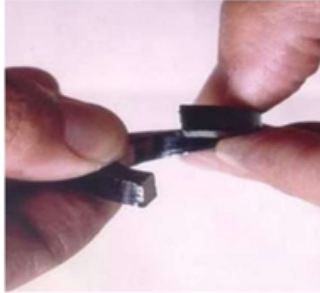
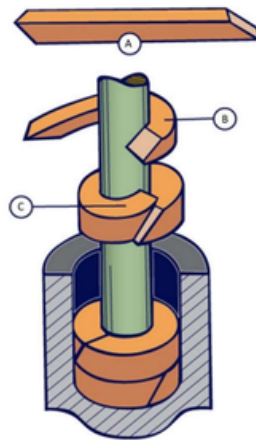

Figure 39 Helix spreading of ring
Figure 38 Spreading of Cut Sealing Rings
5) INSTALL ONE RING AT A TIME. See Figure 38 for installation of cut rings. For installation of die formed rings of flexible graphite, in order to prevent cracking and breaking of the material, do not spread apart the ring as shown in Figure 38. Form a helix with the die formed ring (see Figures 39 and 40). In small valves with 3-5 mm (1/8-3/16 inch) cross sections, soft packing materials, (e.g., ePTFE, PTFE) do not need to be cut into individual rings but may be wrapped around the stem in a consistent spiral to fill the stuffing box. Contact the manufacturer for instructions.